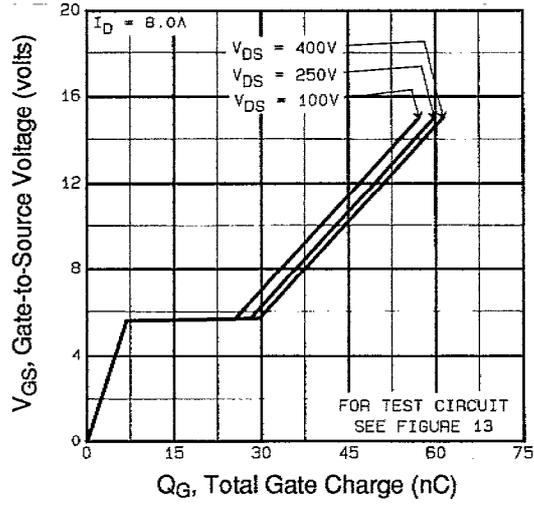

Fig 6. Typical Gate Charge Vs. Gate-to-Source Voltage
| Q_{gd} | Gate-to-Drain ("Miller") Charge | — | — | 34 | | $V_{GS}=10V$ See Fig. 6 and 13 ④ |